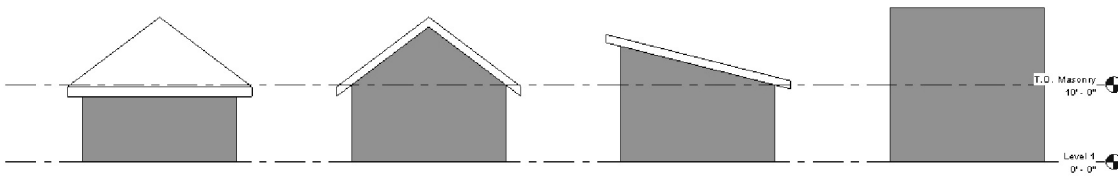

**FIGURE 7-1.9**
33. Set the **Slope**, or roof pitch, to 3/12 (Figure 7-1.9) on the *Properties Palette*.